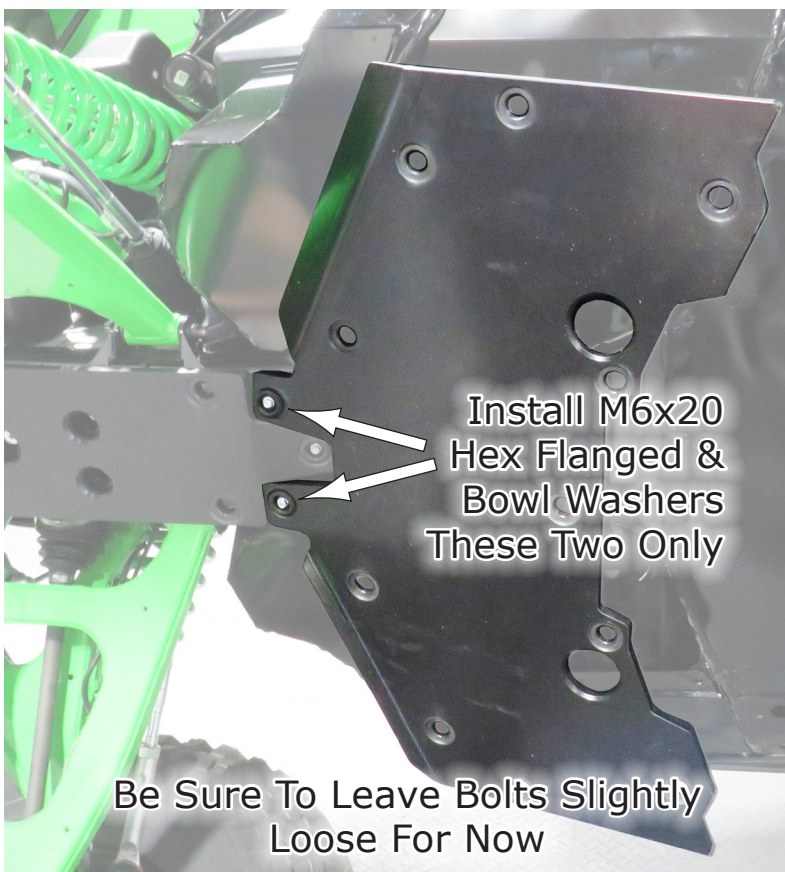
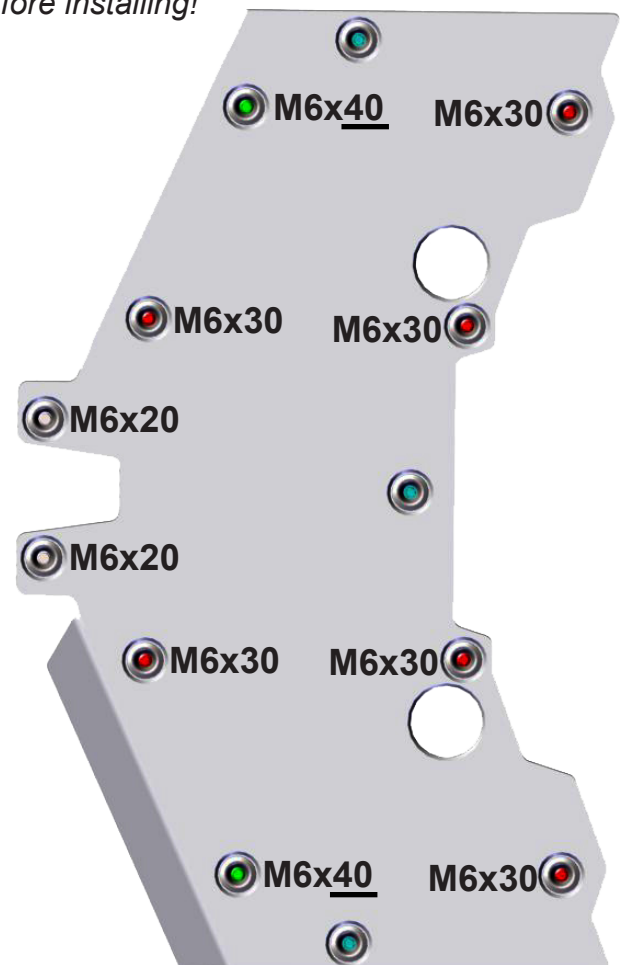

Fig.7a
Fig.7b
7. Now **Install Plate #2**. This one goes up against #1 using the **M6x20 Hex Flanged Bolts** and **Bowl Washers** for these two locations only, shown in **Fig.7a**. **Fig.7b** shows the rest of the bolts to install at this time. The unmarked ones will be drilled at the end of the instructions. We'll cover that then.